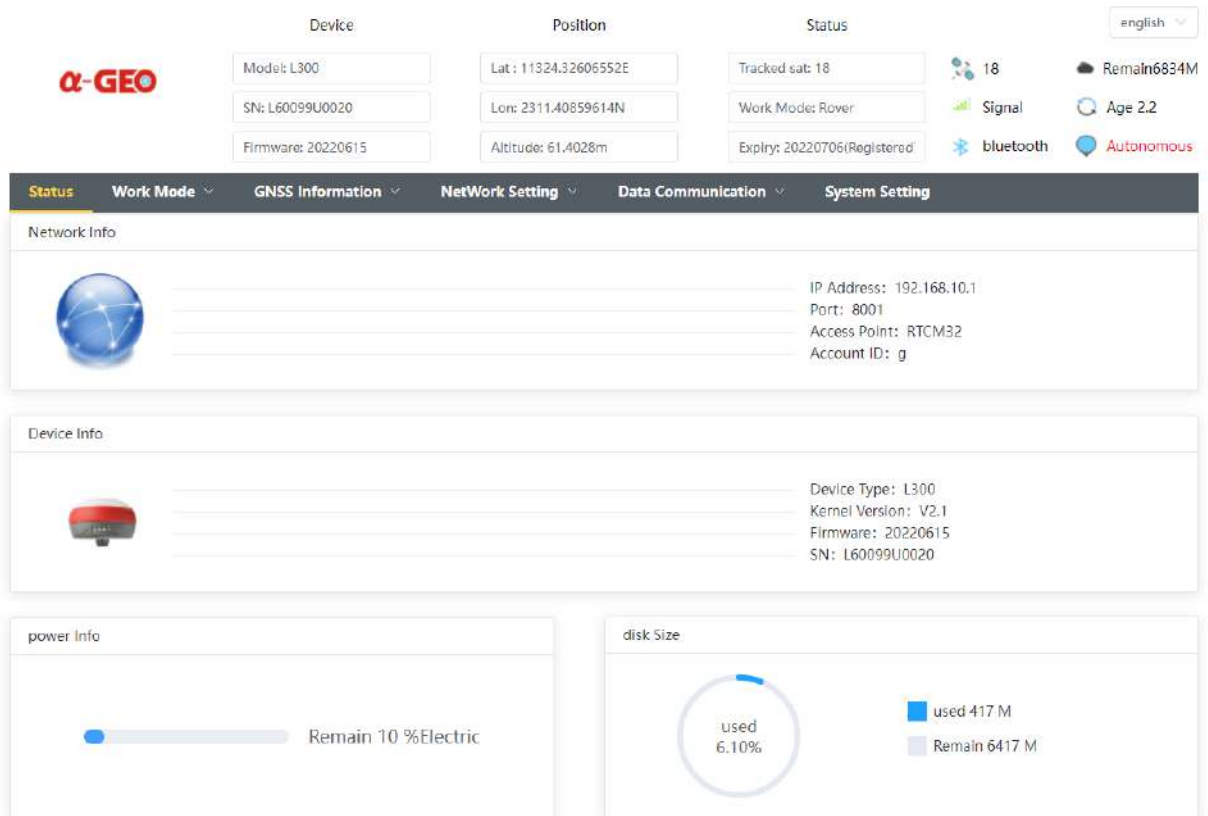

Figure 3-2: Web UI overview
3. Open a browser and type the IP **192.168.10.1** in the address bar. The browser will open the ‘Overview’ page of the Web Interface shown in Figure 3-2.